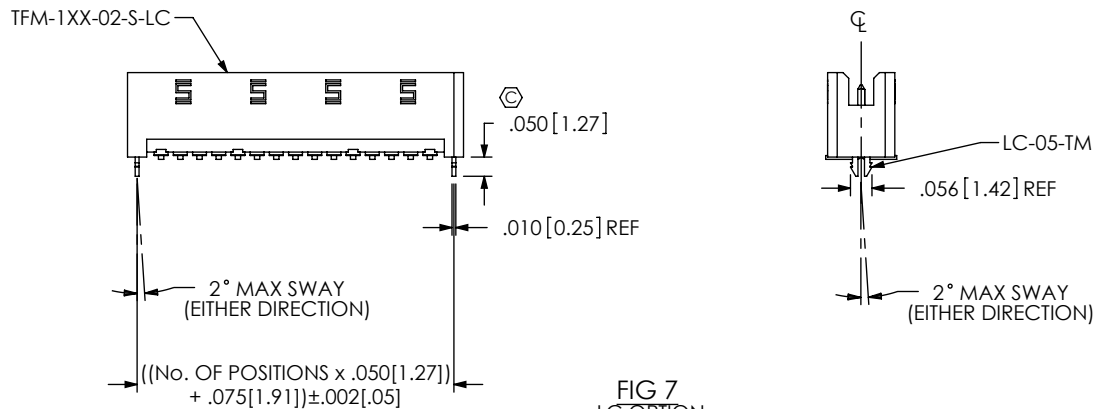

FIG 7
-LC: LOCKING CLIP (USE LC-05-TM) (NOT AVAILABLE WITH -WT OPTION) (SEE FIG 7, SHEET 3) (SEE NOTE 6)